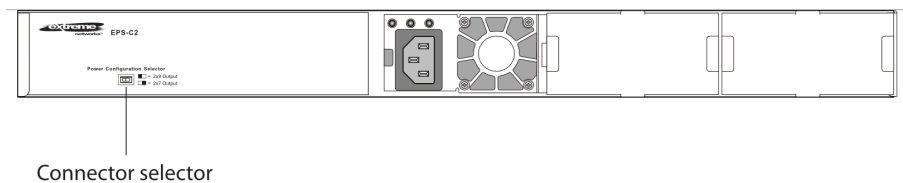

Figure 320: EPS-C2 Connector Selector Switch
1. Set the connector selection switch, located on the front of the EPS-C2 chassis, for the 2x7 connector. See Figure 320.